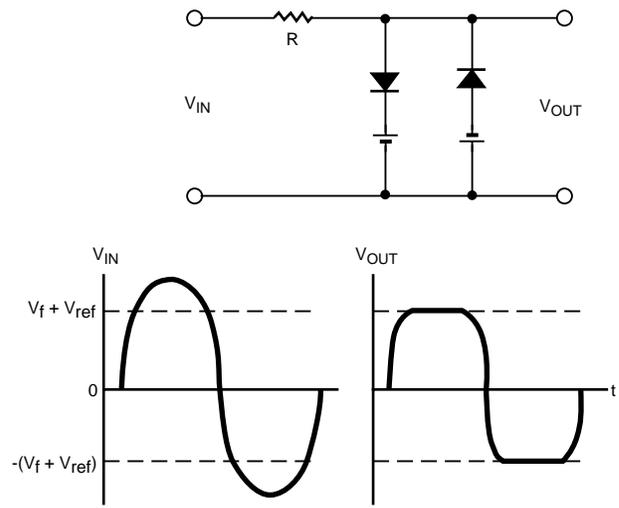

Figure 5.
Double ended clipping (known as limiting) of signal waveforms can be accomplished with the use of a pair of diode clippers in a parallel series configuration shown in Figure 5. The use of the HSMS-28X2 Schottky diode series pair in the SOT-23 plastic package helps to reduce the circuit layout size. If V_{ref1} is made equal to V_{ref2} and the amplitude of the sinusoidal input is sufficiently high, the output waveform will approach that of a square wave. This application represents in essence sine wave to square wave conversion.